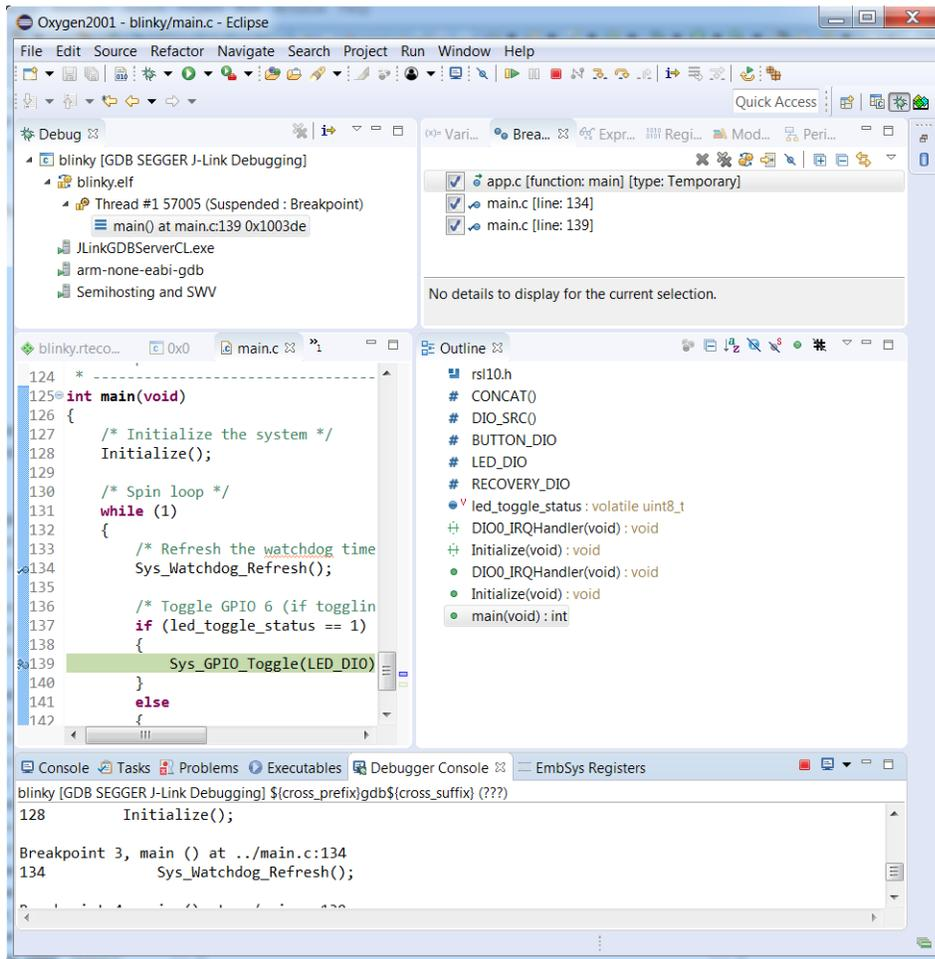

Figure 19. Debug Perspective
6. The Debug perspective opens and the application runs up to the first breakpoint in *main*, as shown in Figure 19 on page 22. You can press F6 multiple times to step through the code and observe that the LED changes its state when the application executes the function `Sys_GPIO_Toggle(LED_DIO)`.